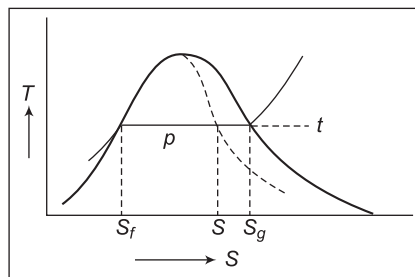

Figure 8.14 T - S diagram
2. **Liquid-vapour mixtures:** Let us consider a mixture of saturated liquid water and water vapour in equilibrium at pressure, p , and temperature, T . The composition of the mixture by mass will be given by its quality x , and its state will be within the vapour dome (Figure 8.14). The properties of the mixture can be evaluated using following formulas: